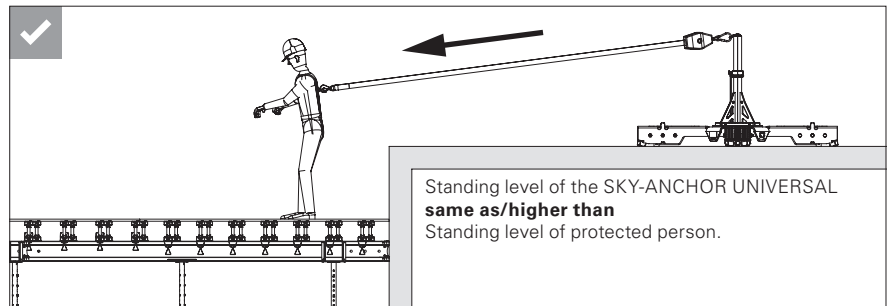

Fig. A2.06
- In the event of a fall, the force applied to the SKY-ANCHOR UNIVERSAL must be applied horizontally or at an angle downwards so that the frictional forces between the SKY-ANCHOR UNIVERSAL and the substrate are not reduced. (Fig. A2.06)